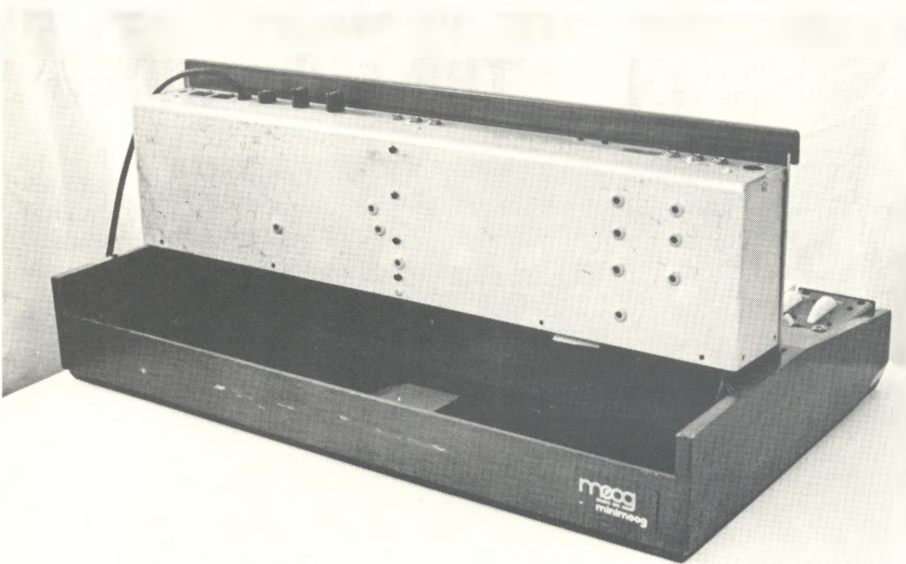

Figure 1
1) Remove the rear panel. There are 18 Phillips head screws holding the rear panel in place: 5 along the top, 5 along the bottom, and 4 on each end. See figures 1 and 2. Once the cover is removed, you will not be able to use the Mini's device which props up the electronics box, so it would probably be helpful at this point to look around your workbench for something to set under the chassis to prop it up in a vertical position as possible.